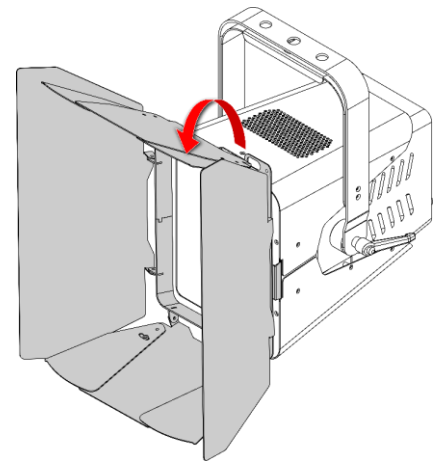

Fig. 10
- 03) Pull the **color frame clip (05)** downwards (see Fig. 10). The barndoor will be locked in position.